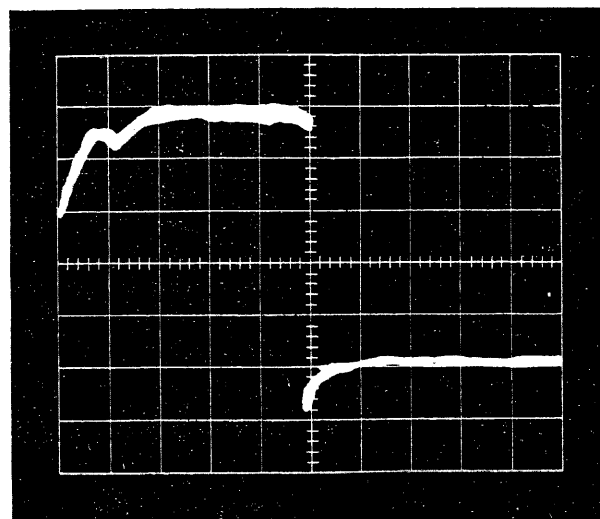

Figure 1-26. Print Magnet R2A (One Armature Picked)
30.1 Print Magnets (Figure 1-26 through 1-28).